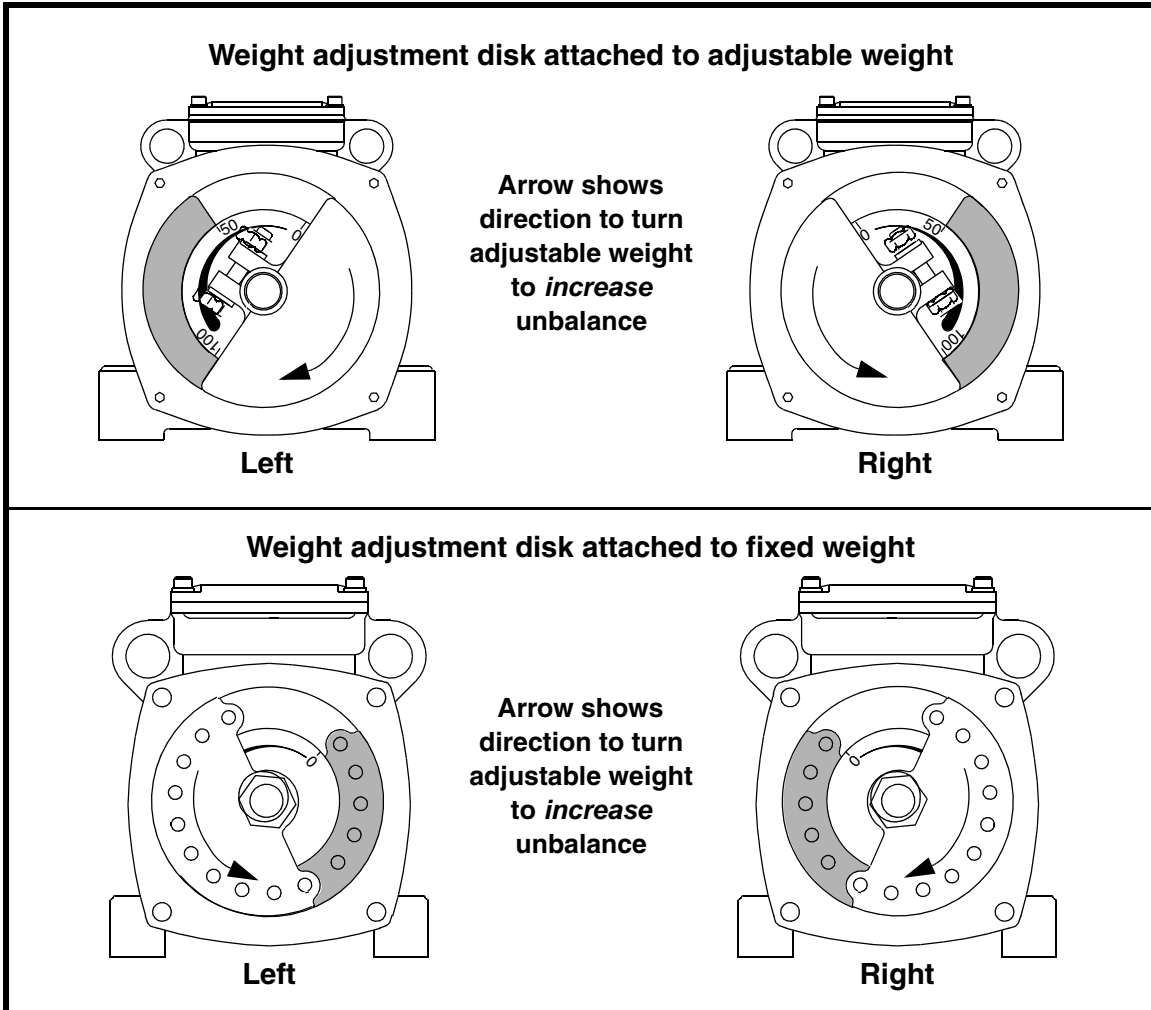

Figure 10. Adjustable Weights Set at 50% (fixed weight shaded)
All MOTOMAGNETIC® Electric Vibrators have one set of eccentric weights on each end of shaft. Eccentric weights are set at 50% at factory (model CD18-3850 is set at 70%, and models CD36-11000 and CD36-20000 are set at 100%). See Figure 10.
4. See Figure 10. Rotate adjustable eccentric weight to proper setting. To produce more force, move weight to higher setting (i.e., higher number). When set, tighten cap screw or nut according to Table II.